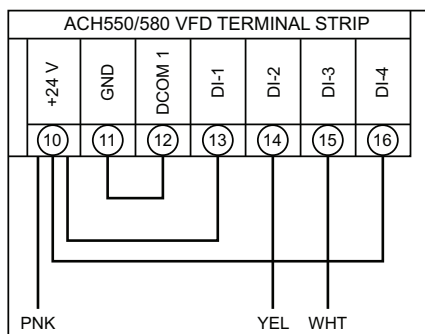

Fig. 30 — ACH550/580 VFD Wiring
- For ACH550/580 VFDs the voltage is sourced from the VFD at its terminal 10 (+24 V). SAV speed inputs are received at terminals 14 (DI-2) for low speed (40 Hz) motor operation and 13 (DI-3) for high speed (60 Hz) motor operation. See Table 13 and Fig. 30 (on page 21).